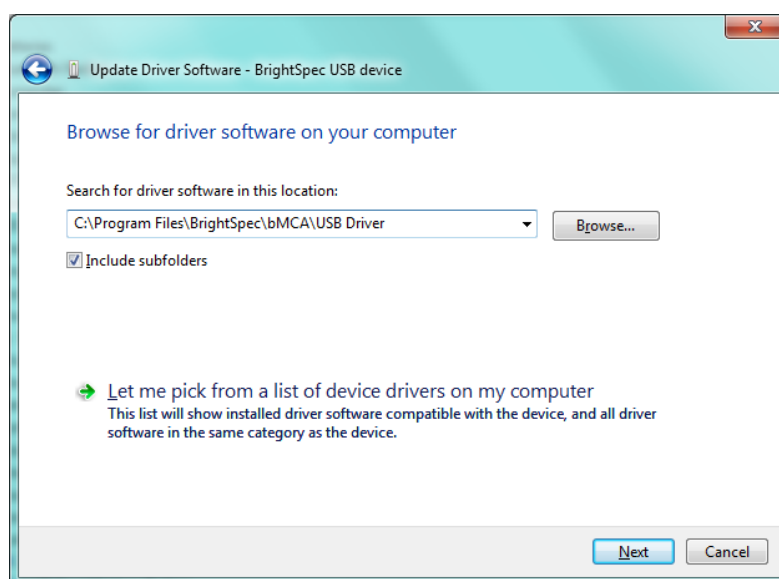

Figure 2 - Selecting the USB driver folder.
5. Make sure that the “Include subfolders” box is checked (Figure 2) and then click “Next”.